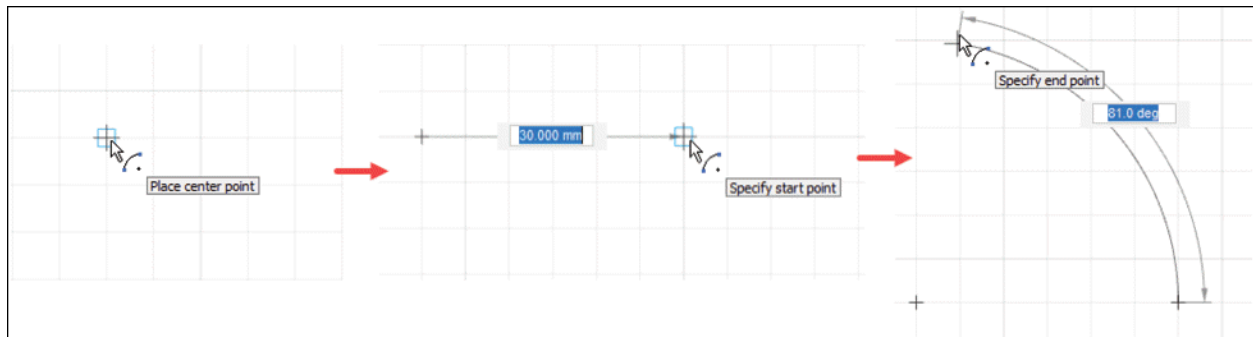

Figure-21. Creation of center point arc
- Enter desired angle value in dynamic input box to define length of arc or click on the screen to specify the end point of the arc; refer to Figure-21.